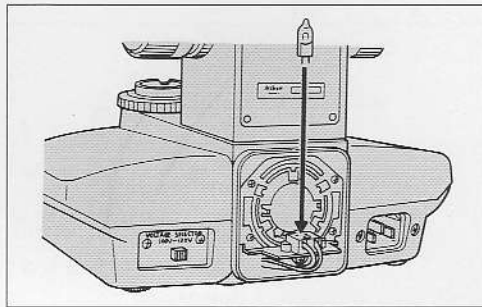

Fig. 2-5
- Insert the lamp into the socket pin holes until it reaches the limit (Fig. 2-5).